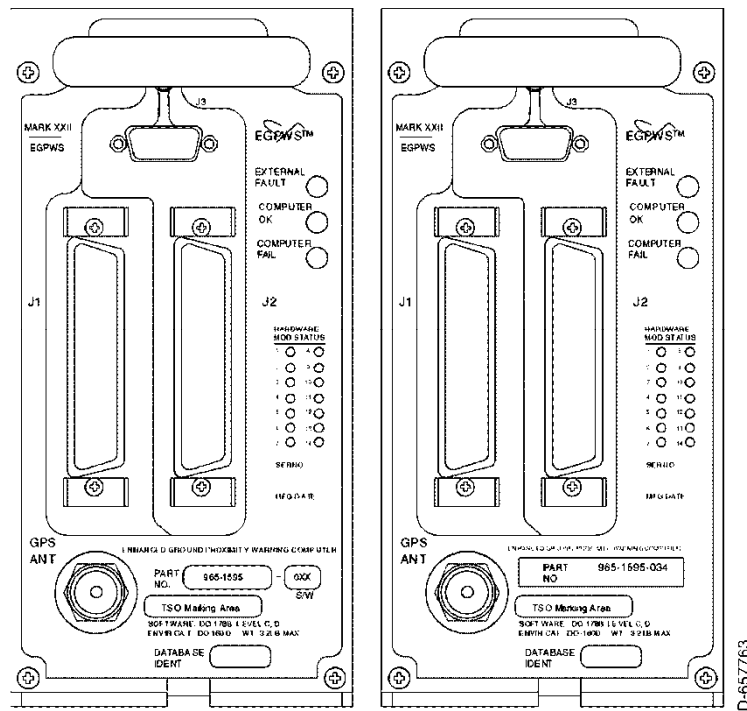

Figure 2. (Sheet 1 of 1) Old Style EGPWS Front Panel Label, Part Number/Software version Label
NOTE: To complete the procedure in this section, refer to Figure 1 and Figure 2.
- (1) Load PCMCIA card data with the system at shop location
- NOTE:** To complete the procedure in this section, refer to Figure 1 and Figure 2.